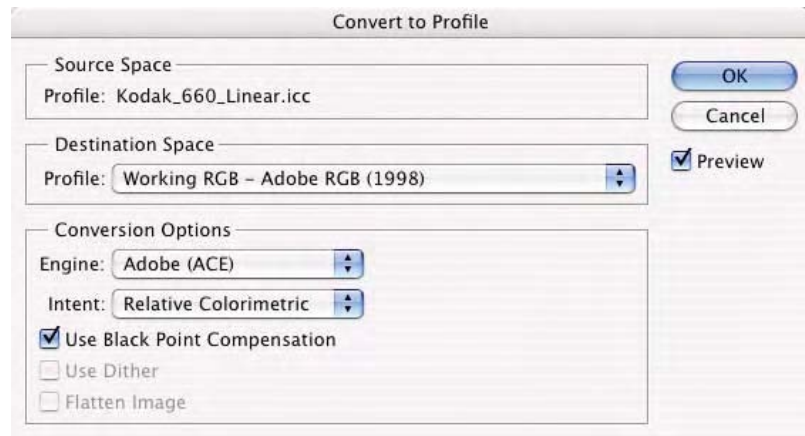

Fig. 9-7-3 The **Convert to Profile** command should be set as seen here. Notice the **Source Space** is the **Kodak_660_Linear.icc** camera profile.
1. Choose **Image-Mode-Convert to Profile** in Photoshop CS or **Edit-Convert to Profile** in CS2 as seen in Fig. 9-7-3.